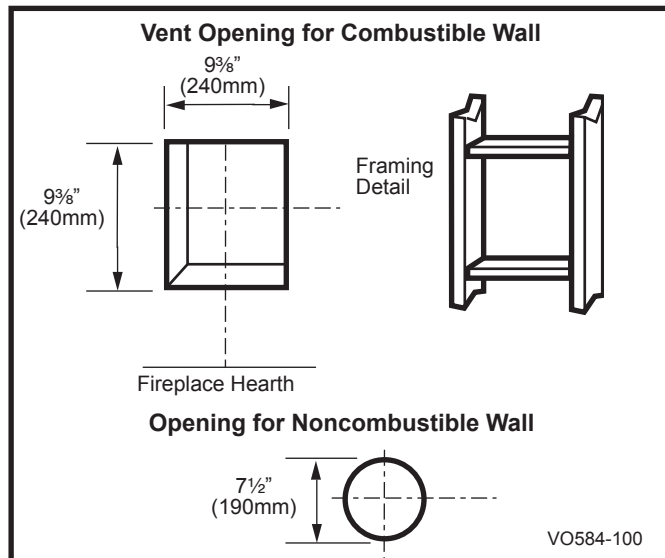

Fig. 18 Locate vent opening on wall.
Locate vent opening on the wall. It may be necessary to first position the fireplace and measure to obtain hole location. Depending on whether the wall is combustible or noncombustible, cut opening to size. (Fig. 18)
Combustible Walls: (Fig. 18) Cut a 9 3/8"H x 9 3/8"W (240 x 240 mm) hole through the exterior wall and frame as shown.
Noncombustible Walls: (Fig. 18) Hole opening must be 7 1/2" (190 mm) in diameter.
1. Establish vent hole through the wall. (Fig. 18)